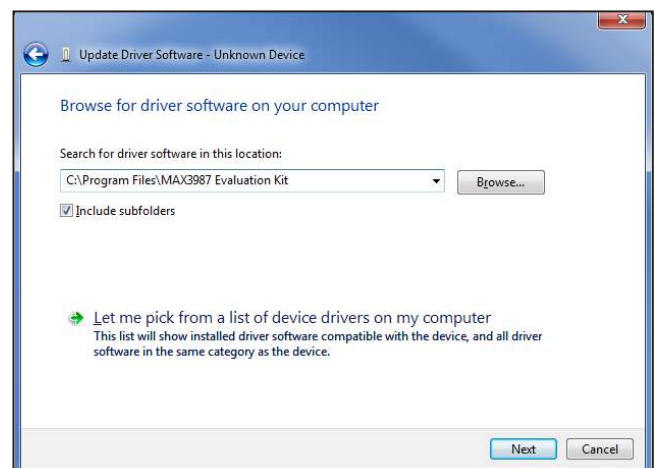

Figure 12. Driver Software Folder Selection
- 4) Click the **Browse** button and select the same installation directory used in step 3 of the GUI software installation instructions (the default directory is C:\Program Files\MAX3987 Evaluation Kit). Click **Next** to continue. The **Found New Hardware Wizard** searches for a short duration before continuing with the driver installation. See Figure 12.